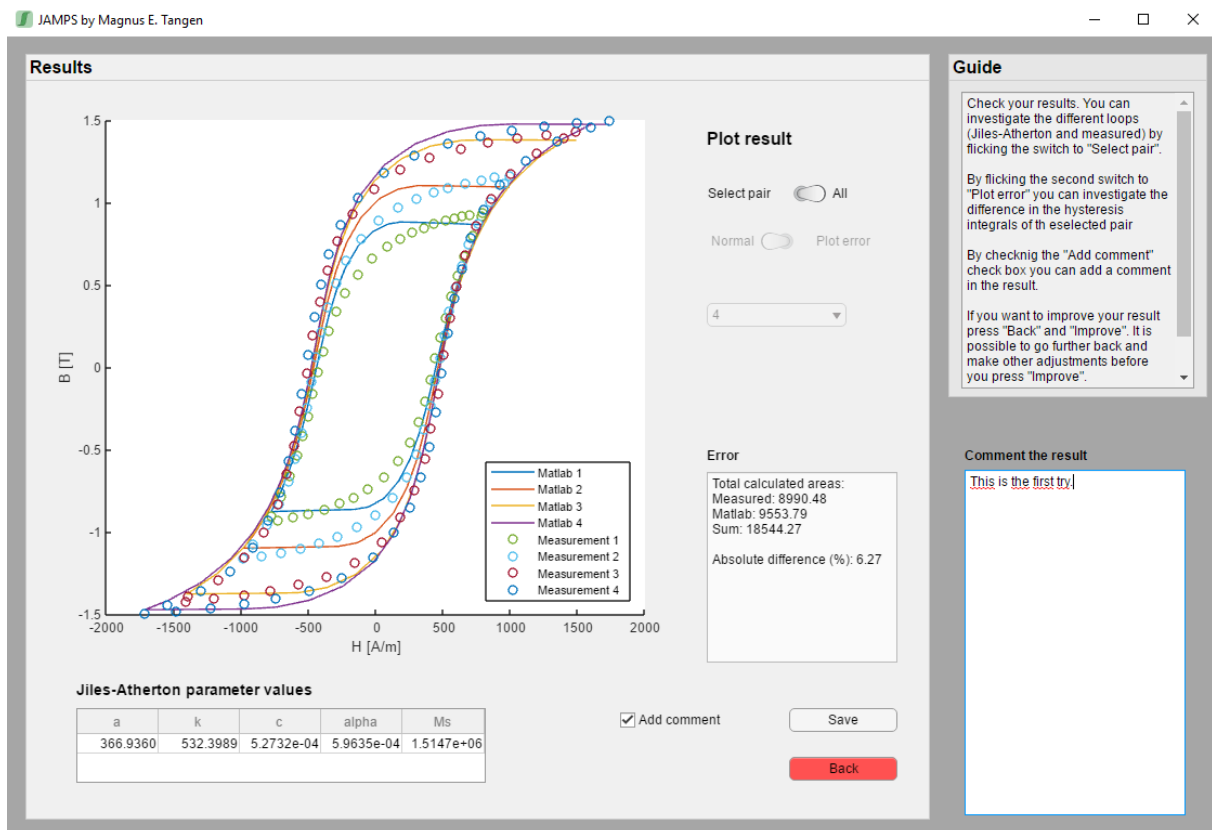

Figure 1.9: JAMPS manual - Parameters and plotted result
- 2 When the simulation is finished the green 'Result' button appears. Investigate the results by pressing the 'Result' button, see Figure 1.9.